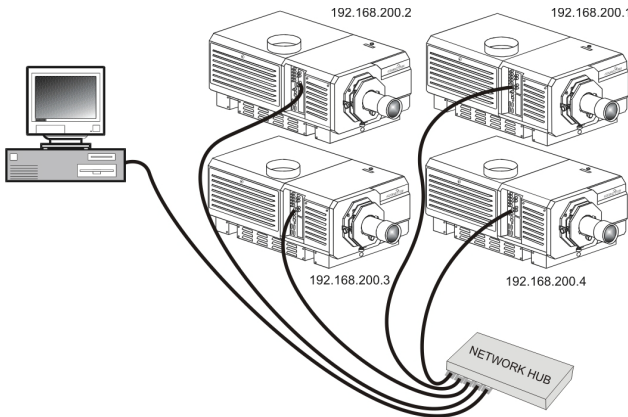

Figure 2-1 Ethernet Connection
- **Figure/Table References e.g., Figure 2.1, Table 4.3**